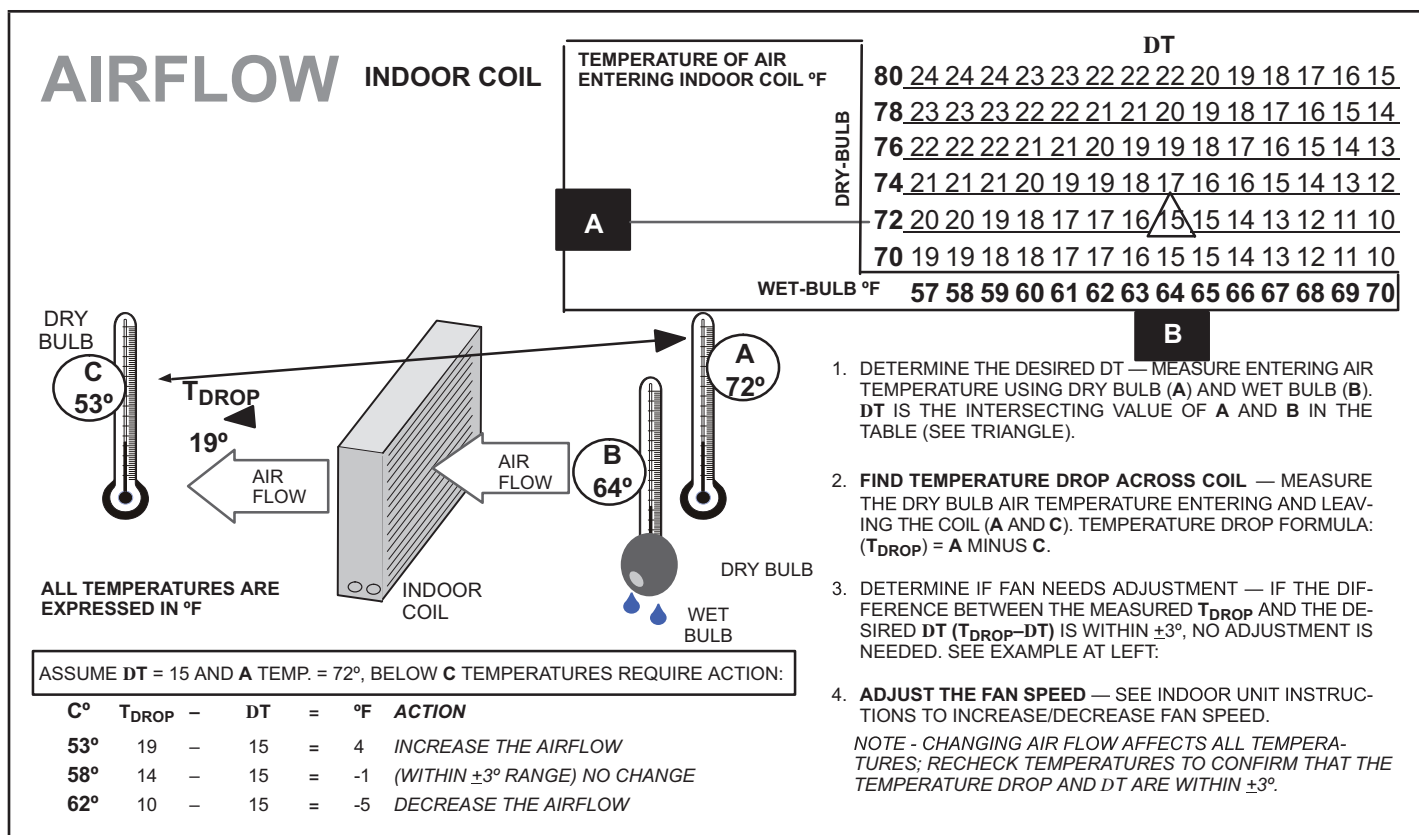

FIGURE 52. Checking Indoor Airflow over Evaporator Coil using Delta-T Chart
- 2 - Check and adjust indoor airflow as described in figure 52.
Check airflow using the Delta-T (DT) process using the illustration in figure 52.